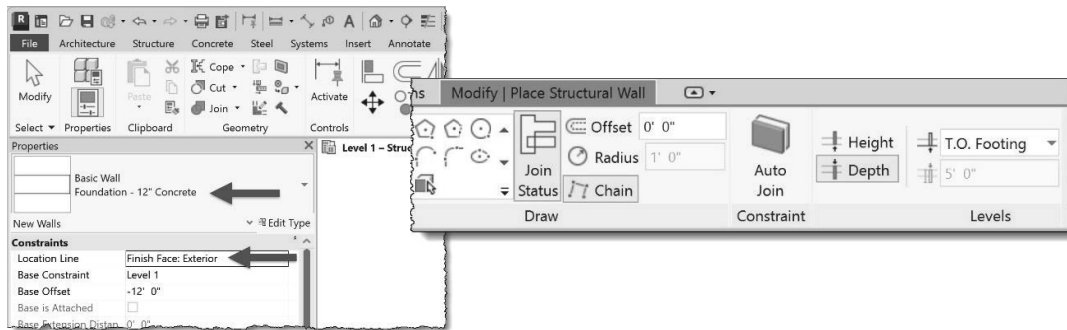

FIGURE 8-5.2 Wall tool – *Properties Palette* for foundation walls
11. Set the *Type Selector* to **Foundation – 12" Concrete** (Figure 8-5.2).
12. Set the *Location Line* to **Finish Face: Exterior** on the *Properties Palette* (Figure 8-5.2).
13. Make sure the *Depth* is set to **T.O. Footing** on the *Ribbon* (Figure 8-5.2).